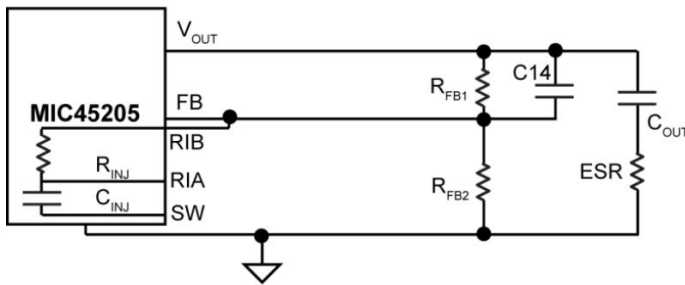

Figure 10. Internal Ripple Injection at FB via RIB Pin
2. Virtually no or inadequate ripple at the FB pin voltage due to the very-low ESR of the output capacitors, such as the case with ceramic output capacitor. In this case, the  $V_{FB}$  ripple waveform needs to be generated by injecting suitable signal. MIC45205 has provisions to enable an internal series RC injection network,  $R_{INJ}$  and  $C_{INJ}$  as shown in Figure 10 by connecting RIB to FB pin. This network injects a square-wave current waveform into FB pin, which by means of integration across the capacitor ( $C_{14}$ ) generates an appropriate sawtooth FB ripple waveform.